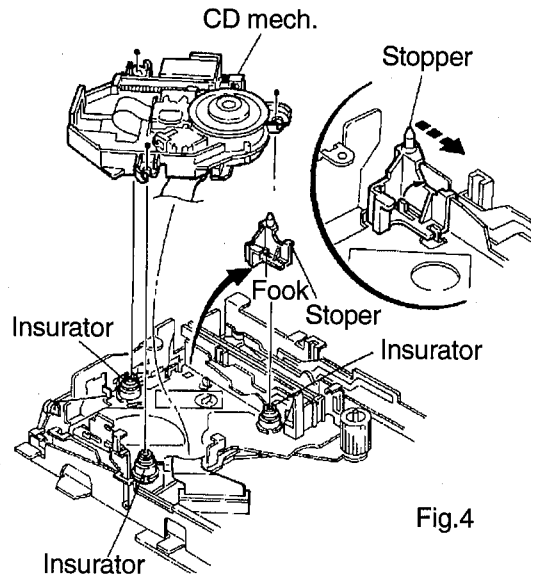

Fig.4
7. Move the center pawl in the arrow D direction and remove the stopper fixing the CD mechanism as shown in Fig.4
8. Remove and take out the three insulators from the CD mechanism by using tweezers and so forth (See Fig.4).